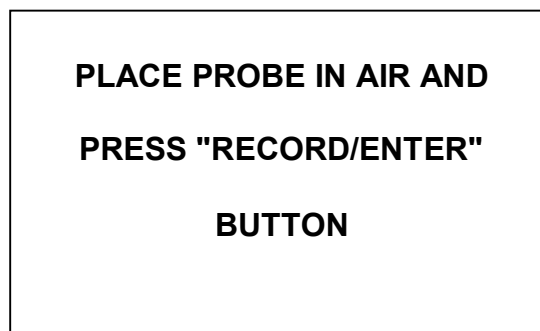

Fig. 2.9
- 2 Move the marker to **AUTOMATIC** command and depress the key . The display shown in Fig. 2.9 shall come up.